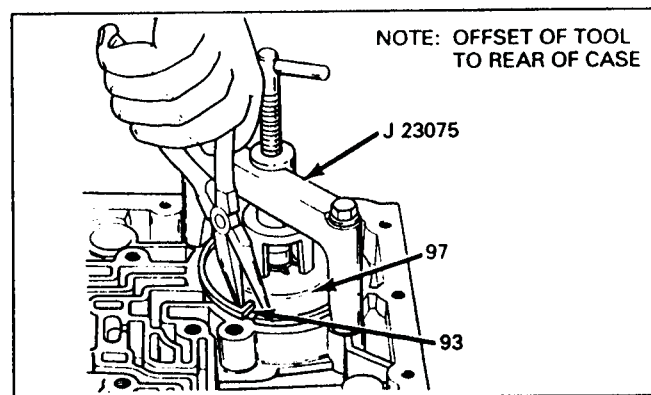

Figure 18
14. Install servo compressor J-23075, as shown in Figure 18.
16. Remove the servo piston retaining ring using pliers as shown in Figure 18.